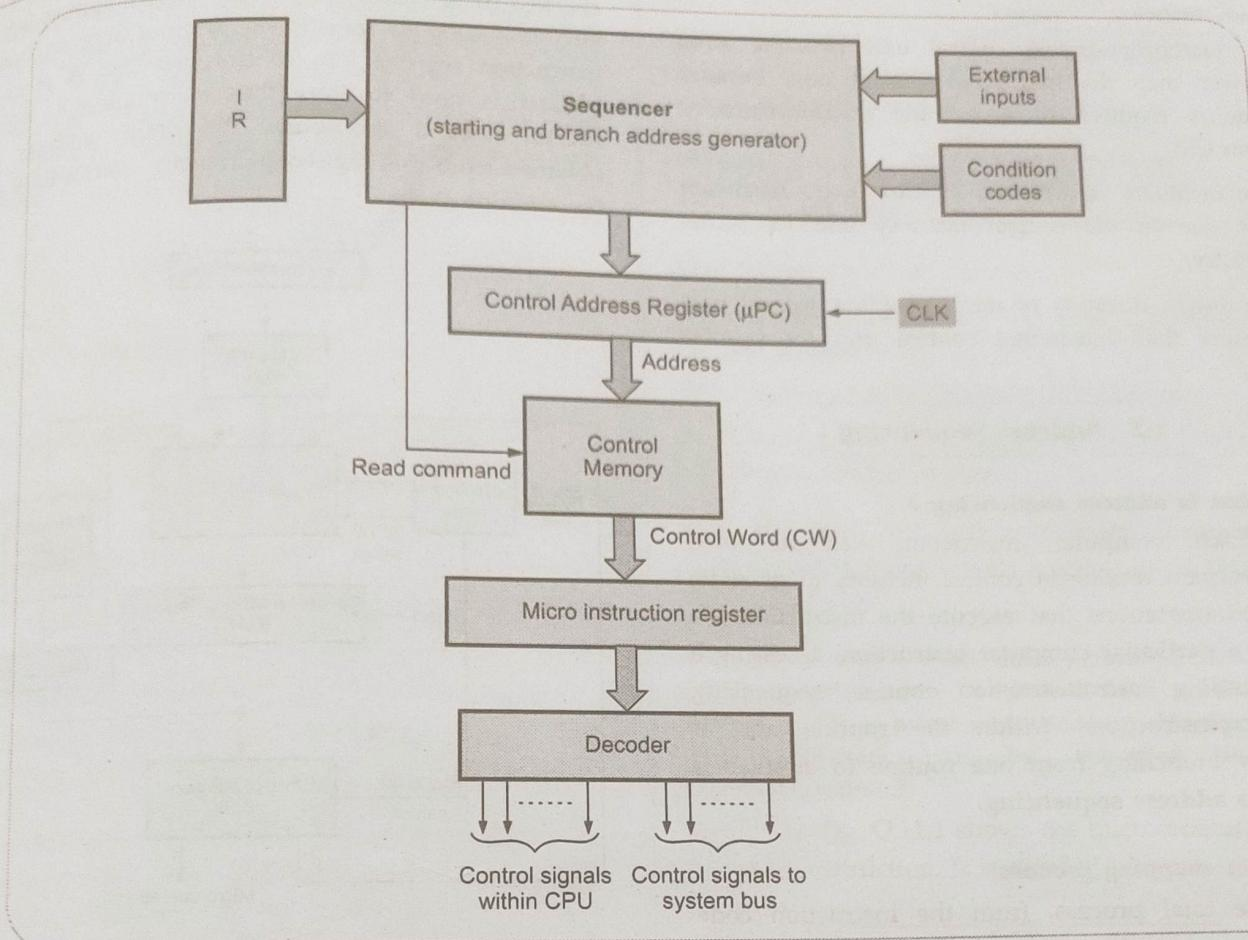

Fig. Q.4.1 Microprogrammed control unit
**Ans. :** Fig. Q.4.1 shows the microprogrammed control unit. It consists of control memory, control address register, micro instruction register and microprogram sequencer.